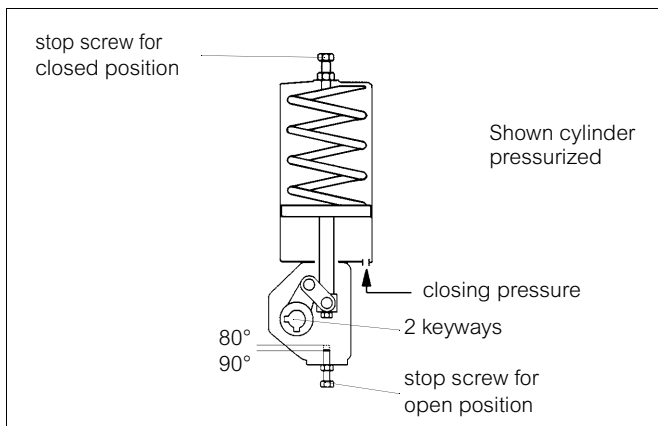

Fig. 7 B1JA actuator
Install the actuator on the valve with the piston in the lower end of the cylinder and the valve in the open position, see Fig. 7. The cylinder must be unpressurized and the air ports open. Adjust the open-position setting using the stop screw (27) at the end of the cylinder. The close-position setting is adjusted with the stop screw (26) at the end of the cylinder while the actuator is pressurized and the piston is in the upper position.